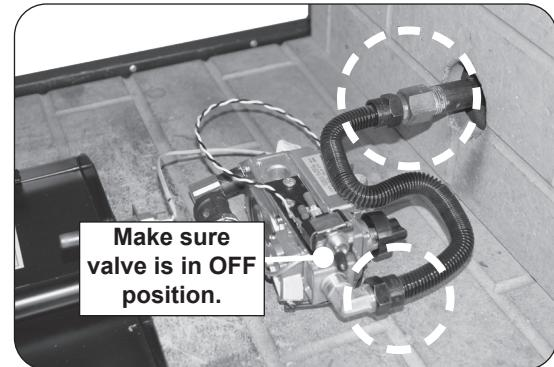

Fig. 18-3 Perform leak test
6. **LEAK TEST:** Make sure the burner valve is in the OFF position. Turn on the fireplace gas supply, and test at all connections for leaks using the appropriate soapy water solution. See Fig. 18-3. If bubbles appear, a leak is present. Turn off the gas and tighten at all connections. Repeat until no leaks are present. If a leak persists, turn off the gas supply and contact the local gas company or dealer. NEVER USE A FLAME TO CHECK FOR LEAKS.